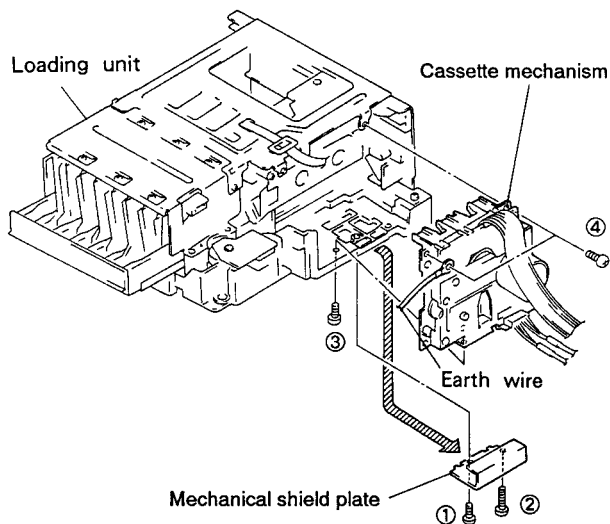

Fig. 2-2
2.2 REMOVAL OF CASSETTE MECHANISM (Refer to Fig 2-2.)